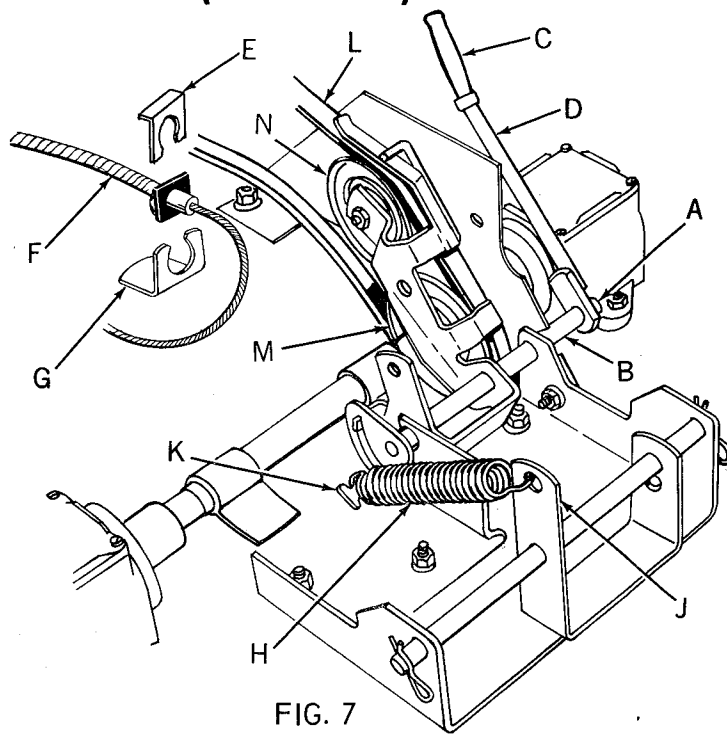

FIG. 7
1. Refer to Fig. 7. Remove nut (A) from end of control arm assembly (B).
2. Slip rubber handle grip (C) found in plastic bag (which contains small spring and decal) over end of blade clutch handle (D). Place blade clutch handle (D) on end of control arm assembly (B). NOTE: There are two flat positions on control arm, be sure flat portion of clutch handle fits over flat portion of control arm assembly. Replace hex nut (A) and tighten securely.
3. Remove spring clip (E) holding clutch cable (F) to front mower housing mounting weldment (G), and remove cable (F) and discard. This cable is used only when mower is used on a tractor equipped with a clutch lever (mower).
4. Assemble small spring (H) found in bag with decal to housing mount assembly (J) and to control arm assembly (K) as shown.
5. Place mower drive belt (L) on pulley (M) of cross shaft and on idler pulley (N) as shown.
6. Rotate blade clutch handle (D) forward.